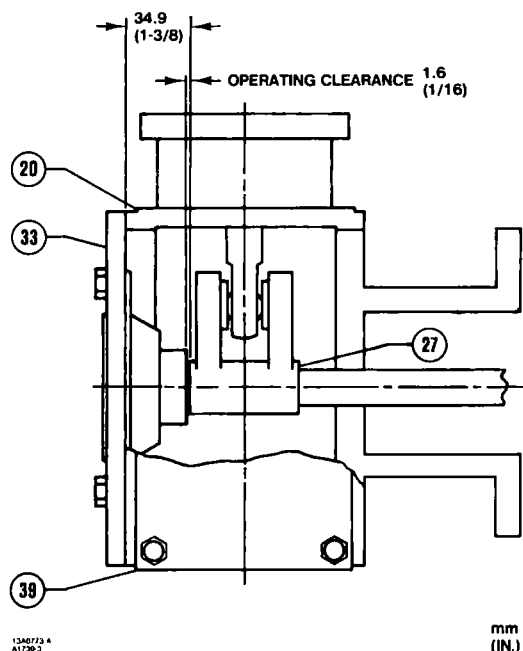

Figure 5. Lever Operating Clearance
7. If the lever (key 27) is attached to the rod end bearing, remove the cap screw and hex nut (keys 18 and 19).
9. Consult the appropriate valve body instruction manual for lever/valve shaft orientation marks, and slide the lever into place, see figure 5. Clamp with the cap screw (key 28).
10. Rotate the lever (key 27) to align with the rod end bearing (key 17). This connection can be aided by moving the actuator off its up travel stop with a regulated air source and adjusting the turnbuckle (key 57) slightly.
11. Apply Loctite¹ 271 or equivalent thread-locking compound (key 77) to the threads of the cap screw (key 18).